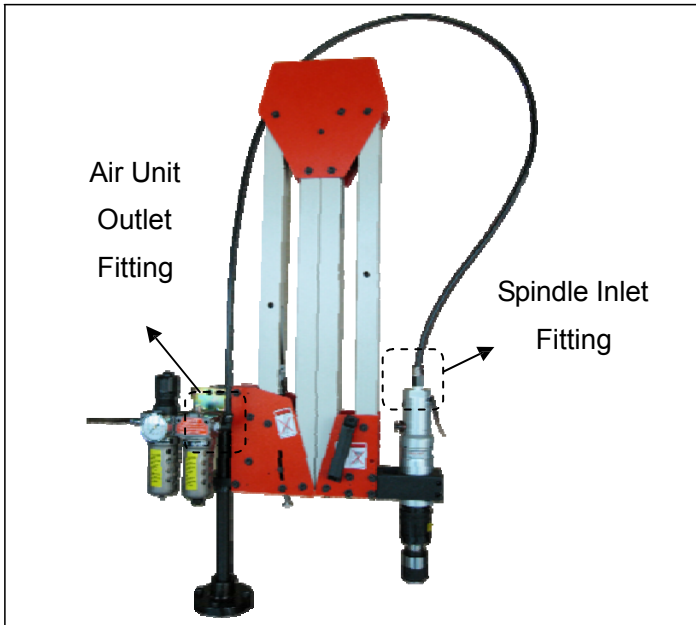

Figure 7-8
- (1) Attach air hose into outlet fitting of air unit and inlet fitting of spindle (see Figure 7-8).
- (2) Press hose firmly into fittings. Fitting are spring loaded. Hose can be removed by depressing lip of fitting.